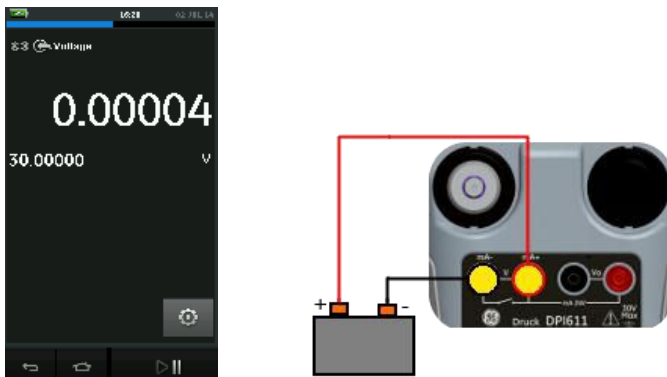

Figure 2-21 Measure DC Volts or DC mV on CH1.
- Figure 2-21 shows CH1 set-up to measure a DC voltage (± 30 V) or DC mV (± 2000 mV).